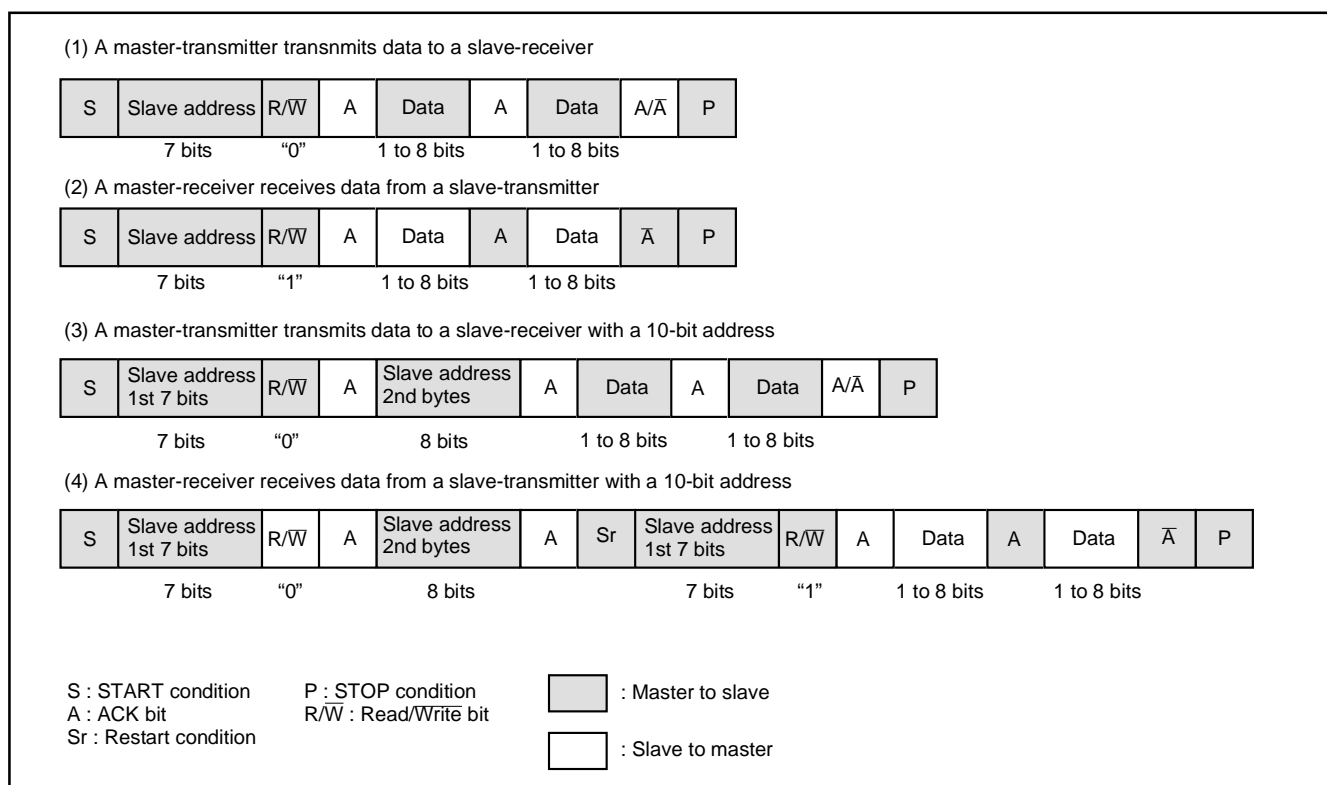

Fig. 39 Address data communication format
① 7-bit addressing format
To adapt the 7-bit addressing format, set the 10BIT SAD bit of the I²C control register (address 002E₁₆) to "0." The first 7-bit address data transmitted from the master is compared with the high-order 7-bit slave address stored in the I²C address register (address 002C₁₆). At the time of this comparison, address comparison of the RWB bit of the I²C address register (address 002C₁₆) is not performed. For the data transmission format when the 7-bit addressing format is selected, refer to Figure 39, (1) and (2).
② 10-bit addressing format
When the first-byte address data agree with the slave address, the AAS bit of the I²C status register (address 002D₁₆) is set to "1." After the second-byte address data is stored into the I²C data shift register (address 002B₁₆), perform an address comparison between the second-byte data and the slave address by software. When the address data of the 2 bytes agree with the slave address, set the RWB bit of the I²C address register (address 002C₁₆) to "1" by software. This processing can make the 7-bit slave address and R/\overline{W} data agree, which are received after a RESTART condition is detected, with the value of the I²C address register (address 002C₁₆). For the data transmission format when the 10-bit addressing format is selected, refer to Figure 39, (3) and (4).